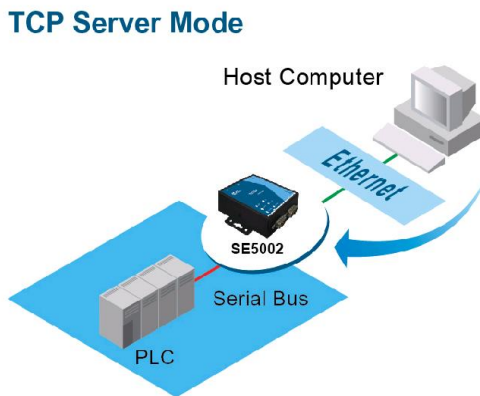

Fig. 1. TCP Server Mode
**TCP Server Mode** : SE5002 can be configured in a TCP server mode on an Ethernet Network to wait for the host computer to establish a connection with the serial device ( the client). After the connection is established, data can flow in both directions (Fig.1 TCP Server Mode).